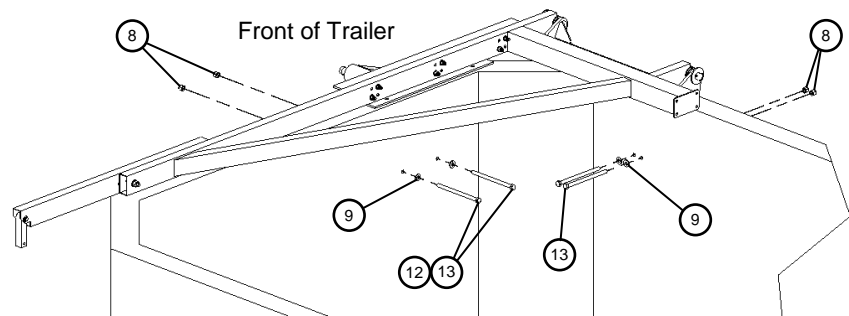

Figure 8
10. See *Figure 8*. Bolt Front Assembly to trailer with 1/2-13 x 2" hex bolt (12) or 1/2-13 x 8" hex bolt (13) (depending on wall thickness of trailer), 1/2 flat washer (8), and 1/2-13 Nylock hex nut (9). Front Assembly will be bolted 2 places in the front and 2 places on the side.